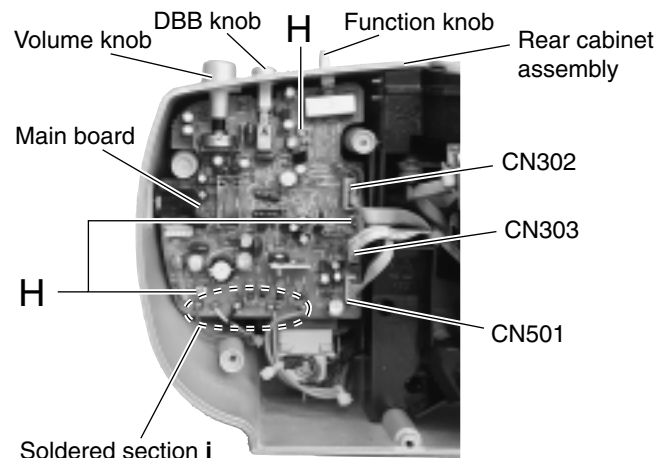

Fig.11
2. Pull out the volume, DBB and function knobs from the main board. (See Fig.11.)
3. Disconnect the wires from the connectors CN302, CN303 and CN501 on the main board. (See Fig.11.)
4. Remove the solders from the soldered section **i** connecting the wires to the main board. (See Fig.11.)
5. Remove the three screws **H** retaining the main board. (See Fig.11.)